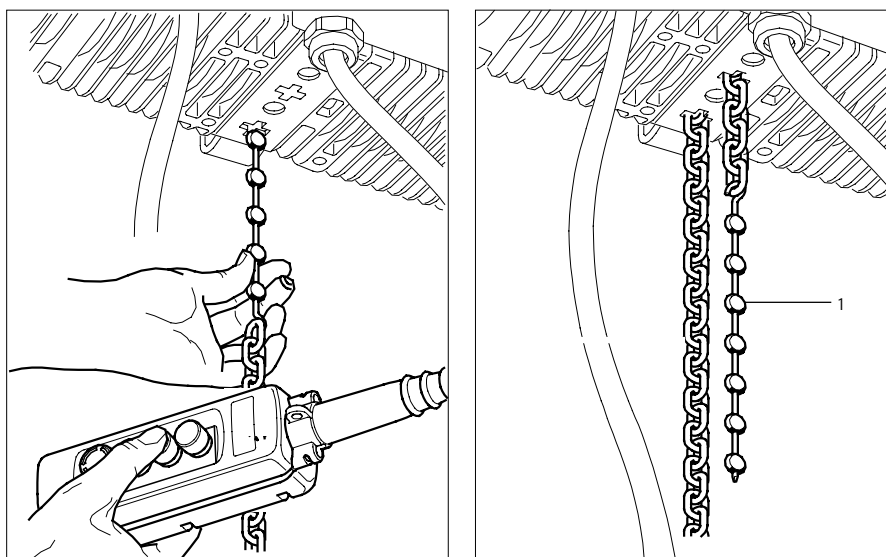

Figure 4-5
The load chain should always be installed using the flexible plastic insertion tool (1 in Fig 4-5). Using this tool helps to ensure that the load chain is installed correctly. Support the chain during installation to prevent the insertion tool from distortion. Insertion tool is available from R&M.
2. Insert the other side of the tool in the sprocket as shown in Figure 4-5.